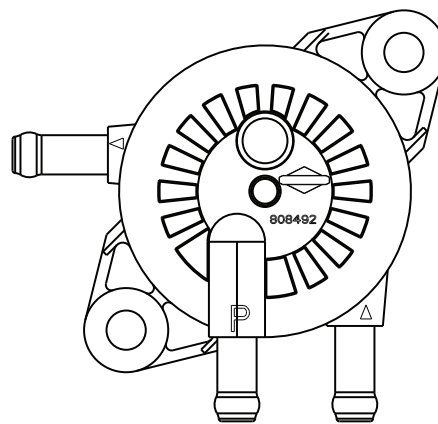

Figure 2-4 Mechanical Diaphragm Fuel Pump
2. Mount the diaphragm pump using the two screws. The diaphragm lift pump should be installed in the same position as seen in figure 2-4 with the vent port and fuel inlet port pointing down.